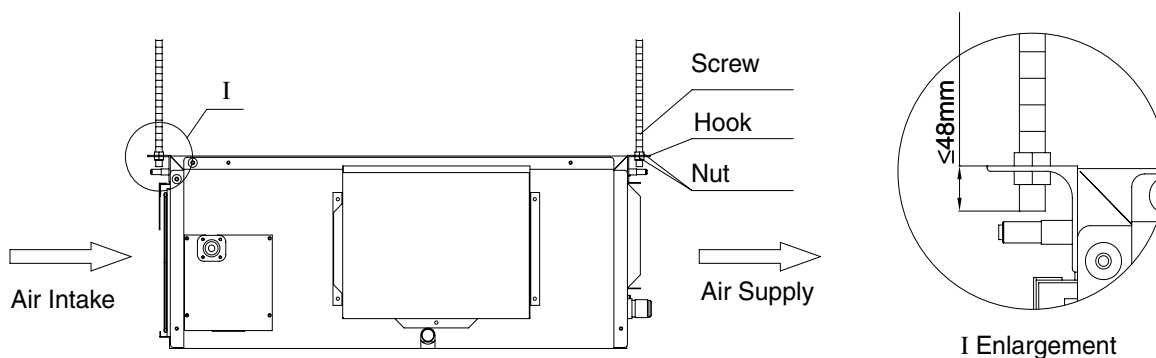

Fig.8.7
- (3) Install the indoor unit at the ceiling as Fig.8.7 shows.